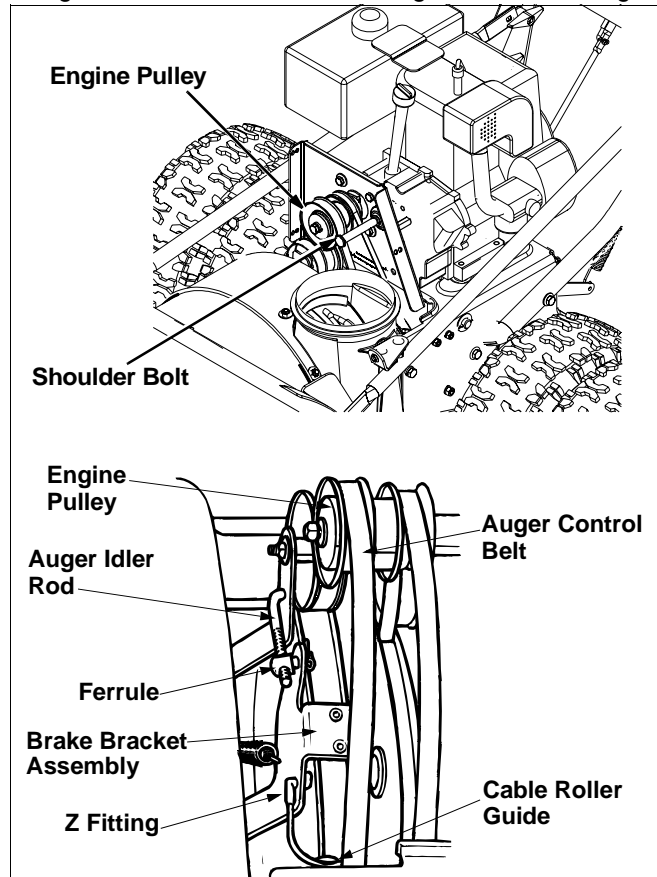

Figure 17
- Remove the large shoulder bolt and washer on the left hand side of the engine pulley. See Figure 17.
- Remove the cotter pin and washer from the ferrule in order to disconnect the auger idler rod from the brake bracket assembly. See Figure 17.
- Attach the "Z" fitting of the cable into the brake bracket assembly. Refer to Figure 17.
assembly and secure with flat washer and cotter pin. Reassemble the large shoulder bolt and lock washer. Refer to Figure 17.